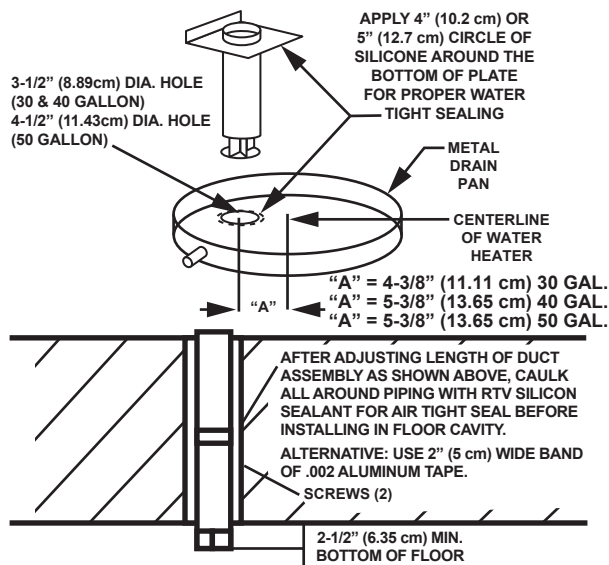

Figure 15: Air Intake Duct Sizing Dimensions
- 2** Locate the position of the 3-1/2" (8.9 cm) or 4-1/2" (11.4 cm) hole to be cut in the floor, see Figures 15 and 16.